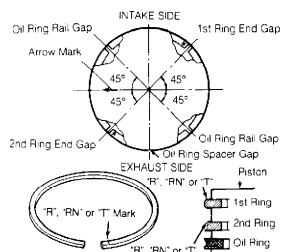

Fig. 16: Positioning Piston Ring Gaps
1) Install rings with "R", "RN" or "T" mark facing upward. Some Samurai top rings are unmarked and can be installed either side upward. Position piston ring gaps. See Fig. 16. Lubricate all internal surfaces with engine oil before installation.